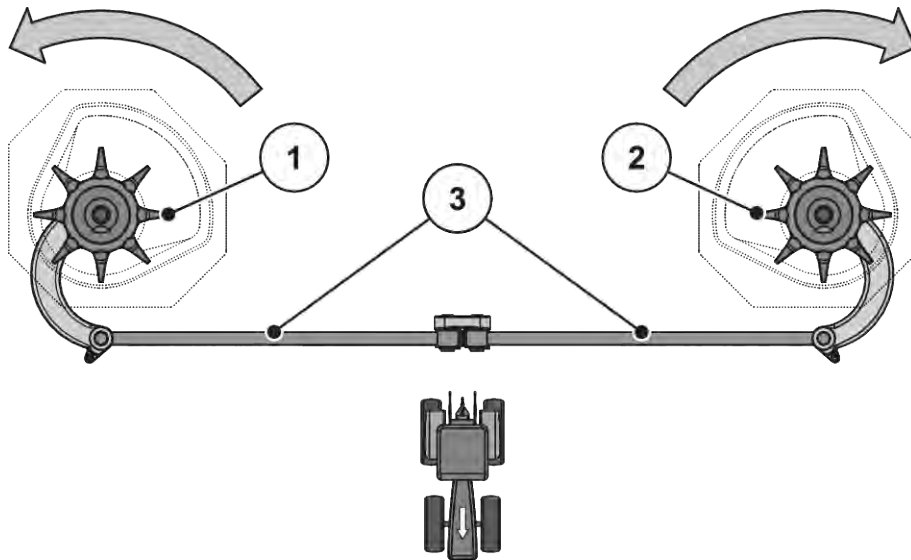

Fig. 56: Checking the agitator drive
- Manually turn the agitator head **into the rotational direction of the spreading disc**. See *Fig. 56 Checking the agitator drive*.
- Turn the agitator head manually or with the help of an oil filter belt forcefully **against the rotational direction of the spreading disc**. See *Fig. 56 Checking the agitator drive*